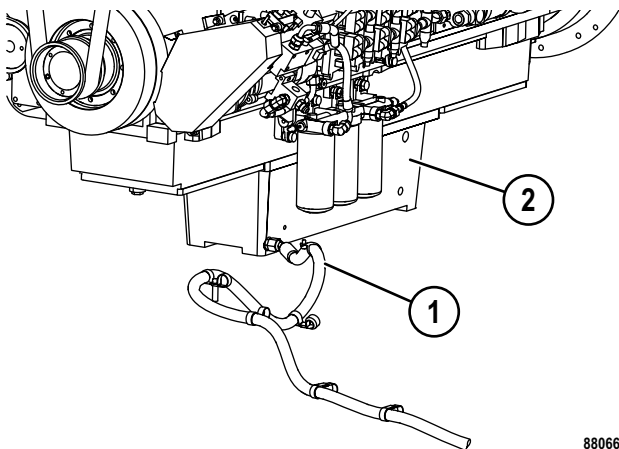

FIGURE 50-9. SERVICE CENTER HOSE
19. Disconnect service center hose (1, Figure 50-9) and the engine oil reserve hoses (if equipped) from engine oil pan (2). Plug the hoses and ports. Move the hoses away from engine compartment to prevent interference with power module removal.